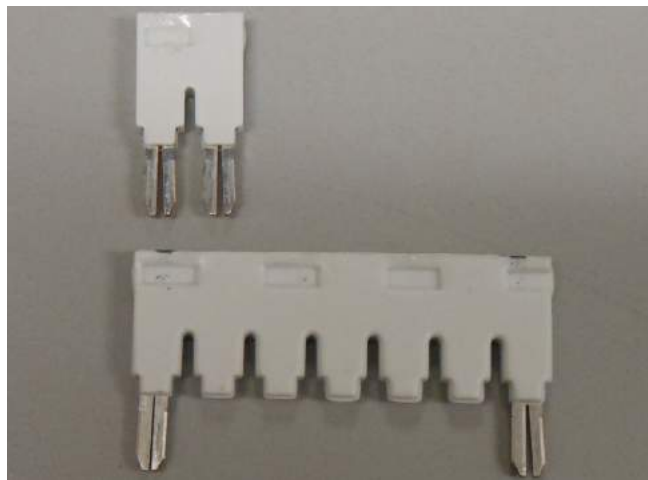
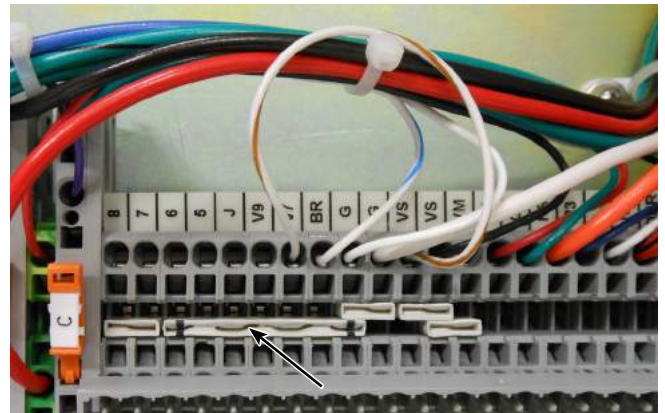

Figure 5. Old and new jumpers
Figure 6. New jumper installed between terminals 6 and G
6. If not present, install the 7-position jumper between terminal 6 and G. Refer to **Figure 5** and **Figure 6**.